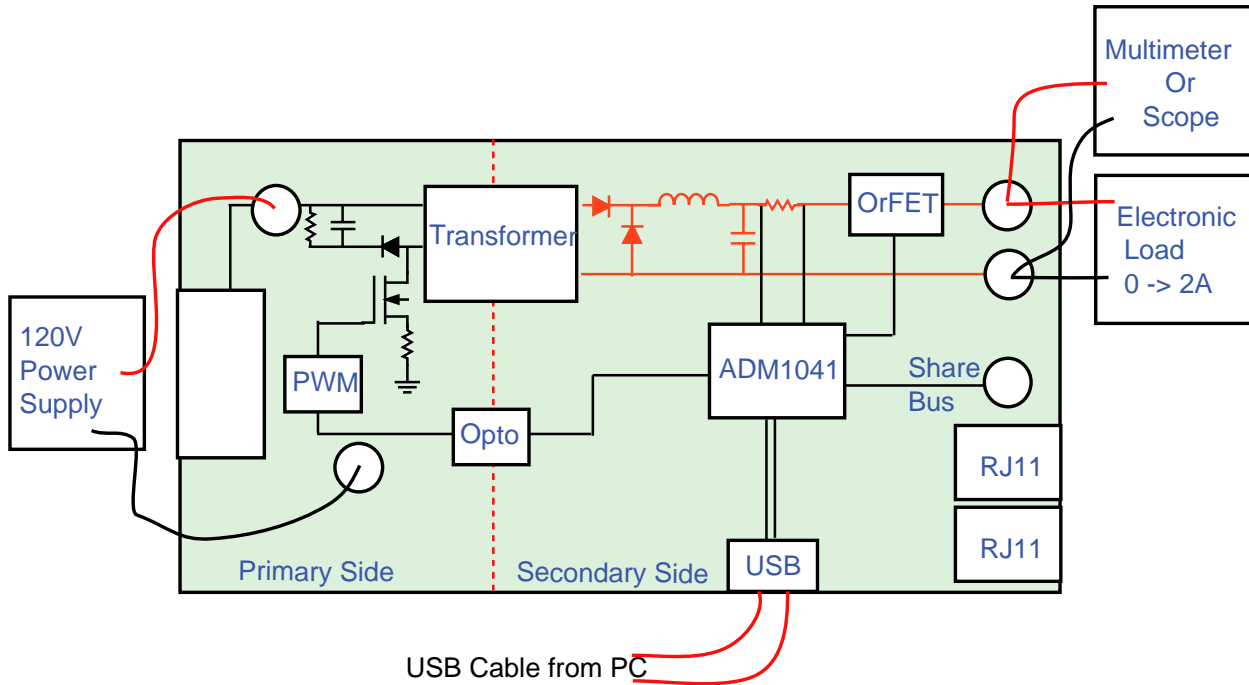

Figure 2. Getting Started
2. Connect the evaluation board to the USB port on the computer, using the USB interface cable provided. See Figure 2 to see how to set up the board. Run the software.